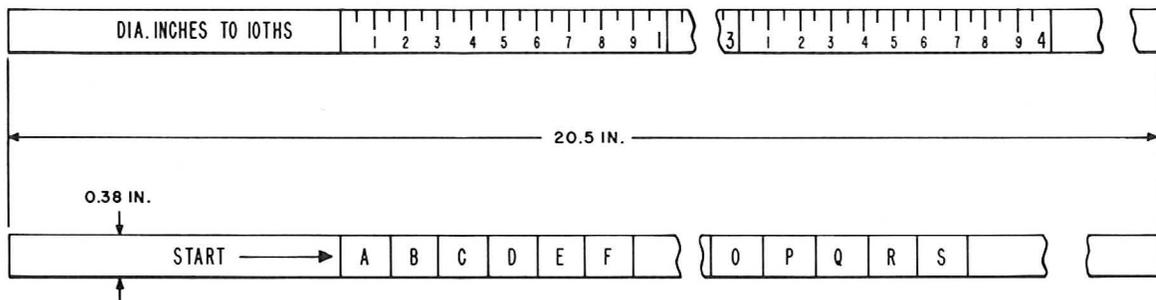

Fig. 8—B Measuring Tape
2.11 The B measuring tape (Fig. 8) made of flexible plastic, is used for measuring cable diameters. One side of the tape is calibrated to indicate cable diameters up to 4 inches, to the nearest one-tenth inch. The reverse side of the tape is calibrated with letters to indicate the associated knockout size in a future splice closure end plate.